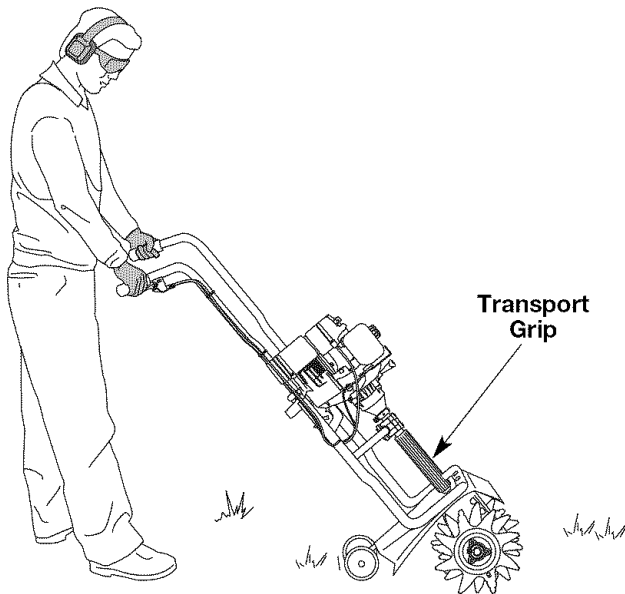

Fig. 10
**WARNING:** Avoid accidental starting. Make sure you are in the starting position when pulling the starter rope (Fig. 10). To avoid serious injury, the operator and unit must be in a stable position while starting.
4. Holding both of the handlebar grips firmly, slowly lower the cultivator until the tines make contact with the ground (Fig. 10).